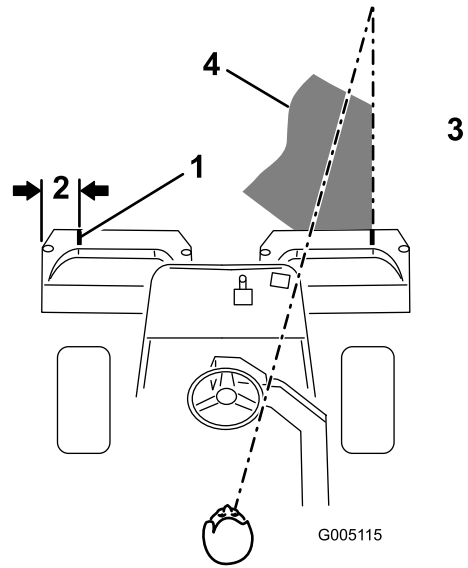

Figure 12
2. Either place a strip of white tape or paint a line onto each basket paralleling the outer edge of each basket (Figure 12).